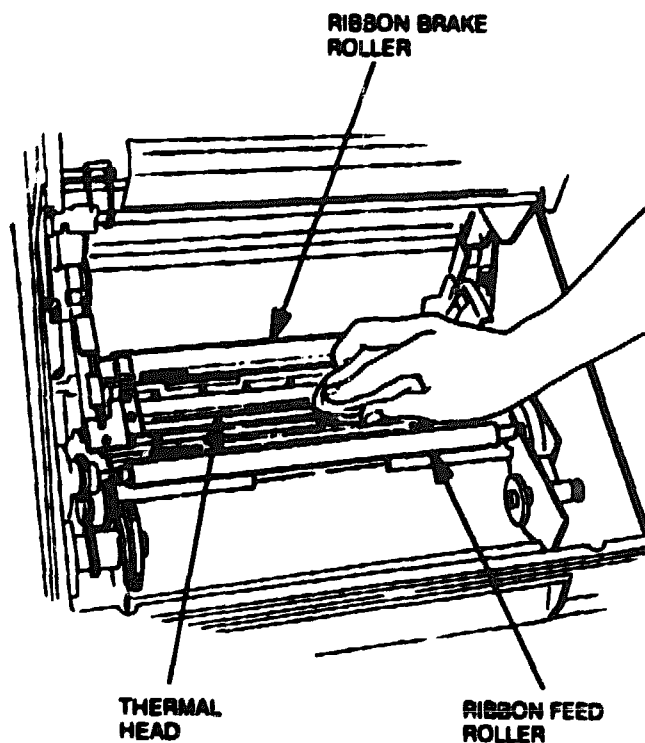

Figure 4-3 Ribbon Feed Roller, Ribbon Brake Roller, and Thermal Head Cleaning
5. Place a clean cloth over the thermal head shown in Figure 4-3 to protect the head from damage.
7. Wipe the ribbon feed roller and ribbon brake roller (see Figure 4-3). Then wipe the thermal head as shown in Figure 4-3.